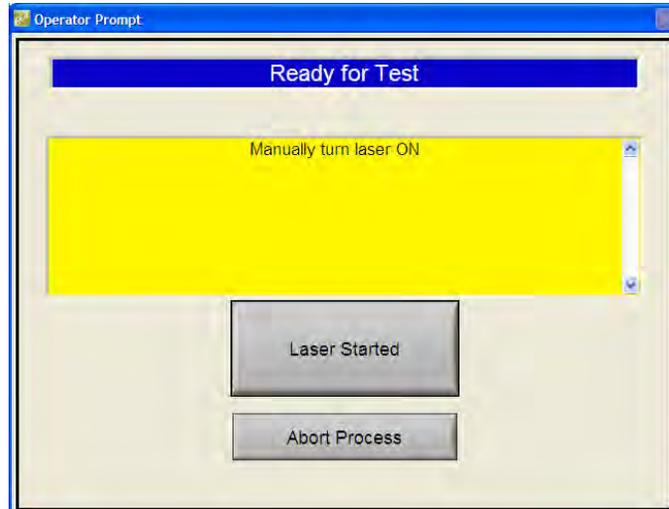

Figure 11 – Manually Turn On Laser Popup
8. Select the 'Run Test' button on the display to initiate the test sequence. A popup will appear to manually start the laser (figure 11). Do not select the 'Laser Started' button at this time.